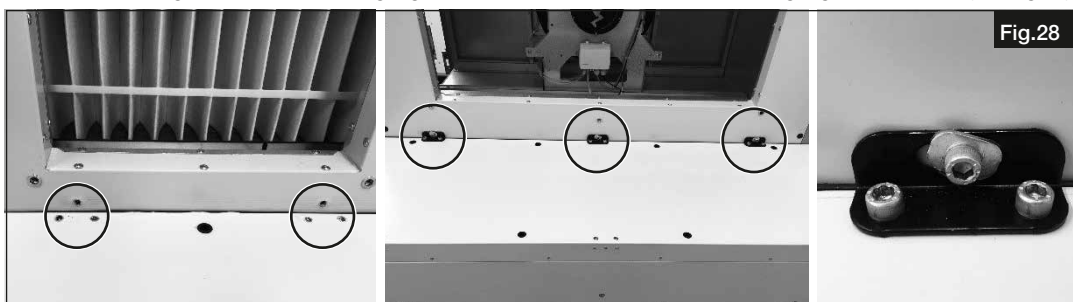

Fig.28
6. Attach mounting bracket to the heating register. Connect the AIR1 unit to the heating register as follows (see Fig.28).